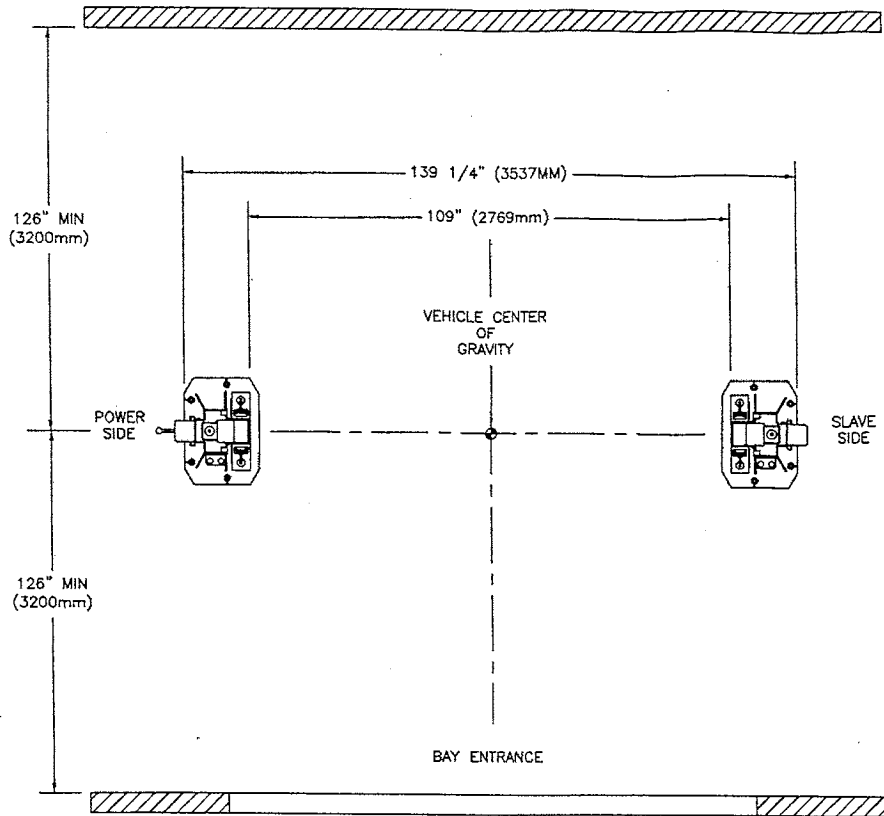
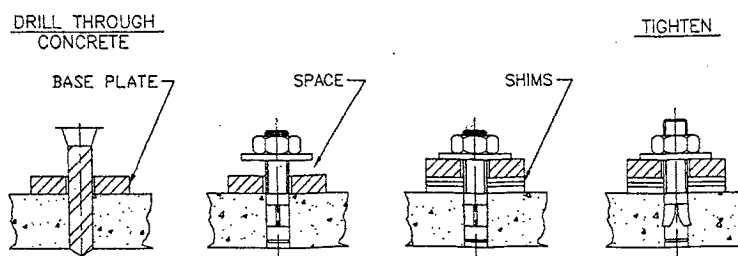

Figure 3 – Bay Layout
Figure 16 - Anchor Bolts
7. Prepare the bay by selecting the location of the lift relative to the walls. Clear the installation area of all packaging materials to avoid trip hazards. Draw a chalk line on the floor to represent the centerline of the bay then draw a second chalk line at 90° for locating the lift towers. Refer to **Figure 3**.
1. Locate the power side and slave side towers and position them as shown in **Figure 3**. Double check all the dimensions in the layout.
3. Check the towers to make sure they are located, and positioned in the correct location. Refer to **Figure 3**.
Refer to Bay Layout (**Figure 3**) to ensure that the column is still in the proper position. Using a rotary hammer drill with a 3/4" masonry drill bit, drill holes in the floor on the high side column using the tower baseplate as a template. Make sure that the 3/4" masonry drill is in good condition (**Figure 16**).
Carefully clean out drilling dust from the anchor holes. Hammer in the anchor bolts (**Figure 16**). Hand tighten all anchor bolts.
Torque all anchor bolts to 150 ft-lbs. (203 Nm), continually checking that the column is level as you proceed. If anchor bolts do not tighten to 150 ft-lbs. OR project more than 1 3/4" above the concrete surface (**Figure 16**), the concrete MUST be replaced by an appropriate concrete pad. (*Consult Product Manufacturer / Supplier for further details*).
1. Refer to Bay Layout (**Figure 3**) to ensure that the column is still in the proper position. Using a rotary hammer drill with a 3/4" masonry drill bit, drill holes in the floor on the low side column using the tower baseplate as a template. Make sure that the 3/4" masonry drill is in good condition (**Figure 16**).
2. Carefully clean out drilling dust from the anchor holes. Hammer in the anchor bolts (**Figure 16**). Hand tighten all anchor bolts.
4. Torque all anchor bolts to 150 ft-lbs. (203 Nm), continually checking that the crossmember and column are level as you proceed. If anchor bolts do not tighten to 150 ft-lbs. OR project more than 1 3/4" above the concrete surface (**Figure 16**), the concrete MUST be replaced by an appropriate concrete pad. (*Consult Product Manufacturer / Supplier for further details*).